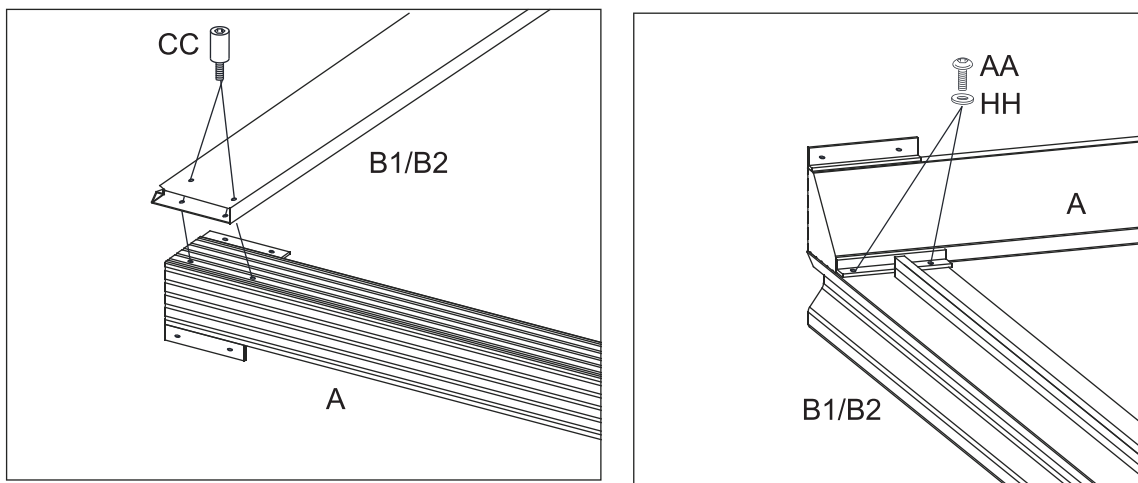

Figure 4.1
4.1: Attach Lintels (B1 and B2) to end of Corner Posts (A) first with Bolts (CC) then with Bolts (AA) and washer (HH). Tighten all Bolts. See Figure 4.1.